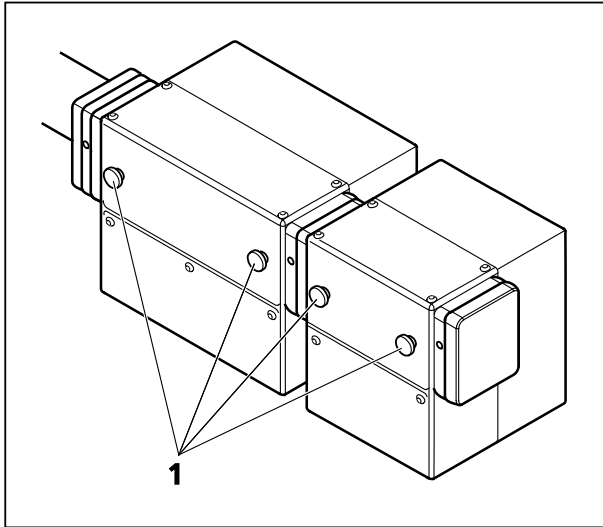

Fig. 10 Thumbscrews of the P&C sliders
The first NDD module, which is attached to the NDD port, is either a two channel module (Fig. 10/1) or a BiG.2 module. Inside those modules right at the opening towards the microscope is a small clamping that holds a blocking filter (1442-160 or 1442-161; order# Feb. 08). Both filters are short pass filters which block the IR light of the multiphoton laser with an optical density (OD) of at least 7. If none of these filters is installed, the image quality will not be sufficient as too much laser light will get to the detectors. Always make sure one of these filters is in place.
To install them, open the metallic grey lid of the NDD module turning the thumbscrews (Fig. 10/1). Once the lid is removed the clamping is accessible. Slid in the filter, which is attached to a small holder, into the clamping with the little screw on the side of the holder situated on the left side of the holder when facing towards the microscope.
- To change the cubes simply take out the sliders which hold the cubes by unscrewing them from the rest of the module using the thumbscrews (Fig. 10/1).